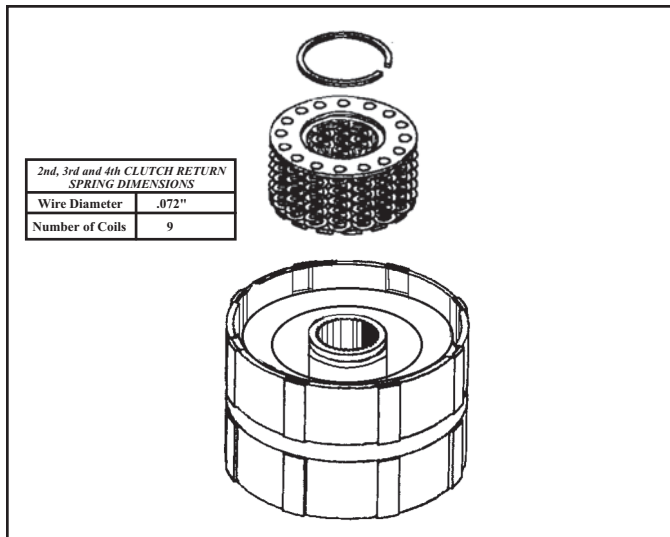

Figure 112
1. Place the piston return spring assembly into the 2nd clutch drum. Using Saturn's spring compression tool SA9146T or equivalent, carefully compress the spring. With the spring compressed, use a suitable pair of snap ring pliers and install the retaining snap ring (See Figure 112).